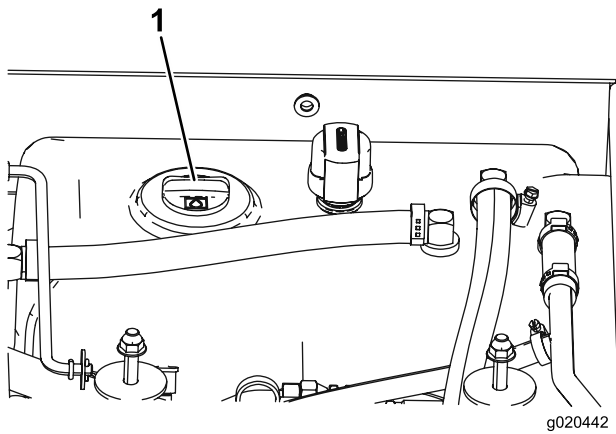

Figure 13
3. Clean the area around the filler neck and cap of the hydraulic tank (Figure 13). Remove the cap from the filler neck.